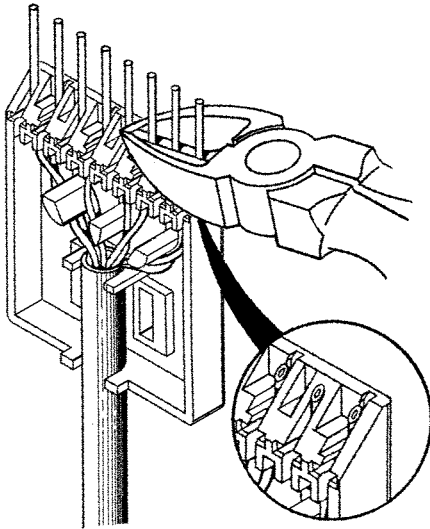

Figure 4
6. After all conductors have been seated in holding slots, press side of diagonal wire cutter flush against angled front surface of housing and cut off excess conductor length. See Figure 4.